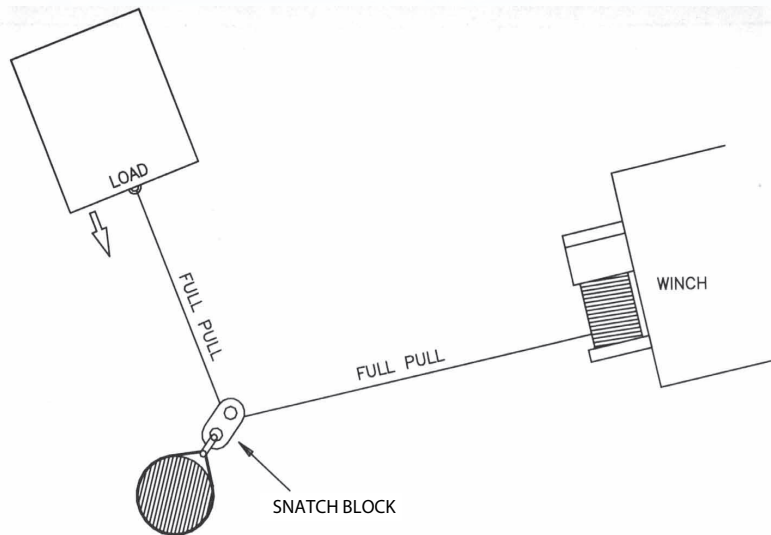

Figure 18
5. Figure 18 illustrate the use of a snatch block to change the direction of the pull. Mechanical advantage can be obtained by attaching a pulley block to the nylon sling with a shackle and running the winch rope to the anchor point.